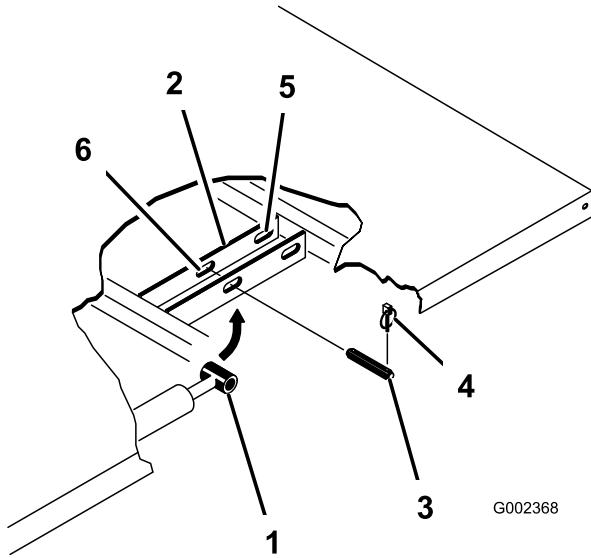

Figure 3
4. Remove the lynch pins from the outer ends of the cylinder rod clevis pins (Figure 3).
5. Remove the clevis pins securing the cylinder rod ends to the bed mounting plates by pushing the pins toward the inside (Figure 3).